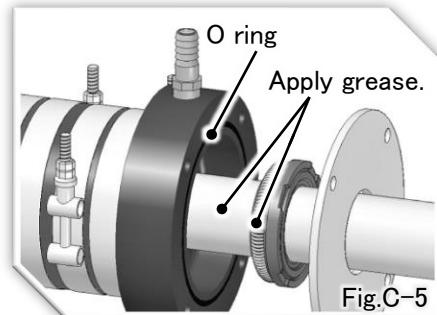

Fig.C-5
1. After remove dirt from the rubber housing and the propeller shaft, apply a thin coat of grease to the surface of the propeller shaft. Then wipe away surplus grease with your hand. (See Fig.C-5)